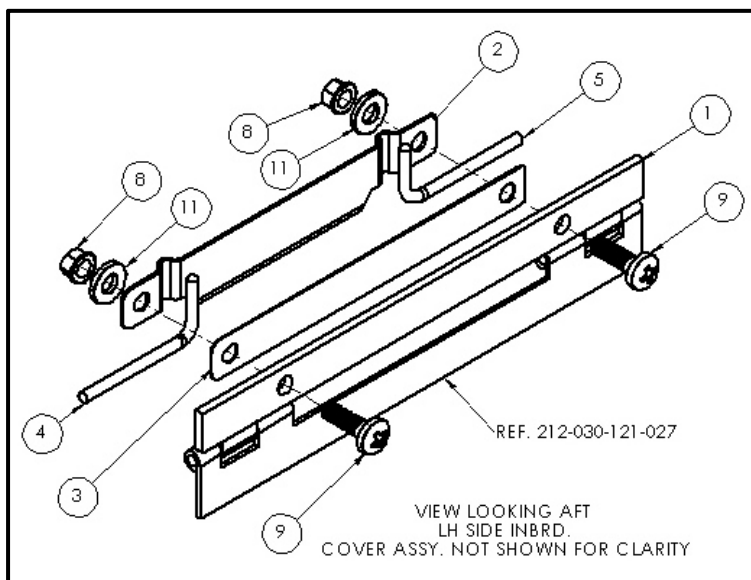

Figure 1
Referencing Section 5 of this document, install the cover (1) with hinge pins (4) & (5). Ensure hinge pins (4) & (5) are in the correct position per figure 1.
Install the hinge pin retainer (2) using the following procedure per figure 1;
- Install screws (9) through cover (1) with the head against the outer surface.
- Install retainer plate (3) onto screws (9) against the inner face of the cover (1).
- Position hinge pins (4) & (5) into the notches of the retainer (2). Install retainer (2) onto screws (9) and retainer plate (3).
- Install washers (11) onto screws (9) and retainer (2).
- Install nuts (8) onto screws (9) and washers (11), and torque nuts (8) to 30 inlb...